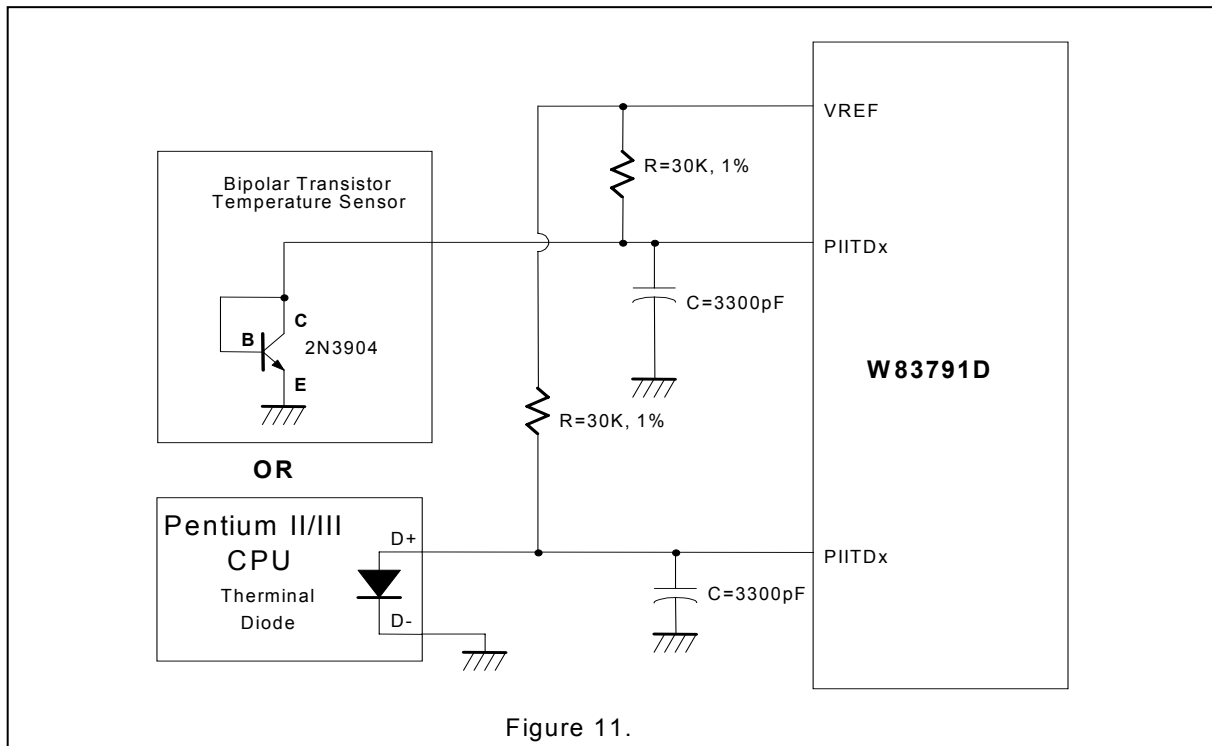

Figure 11.
The negative voltage should be connected to two series resistors and a positive voltage VREF (equal to 3.6V). In the Figure 11, the voltage V3 and V4 are two negative voltages and are -12V and -5V respectively. The voltage V3 is connected to two serial resistors as well as another positive terminal VREF. Therefore, the voltage node N12VIN would be a positive voltage if the scale of the two serial resistors are carefully selected. It is recommended from Winbond that the scale of the two serial resistors are R5=232K ohms and R6=56K ohm. The input voltage of node -12VIN can be calculated by the following equation.
The W83791D/G can connect three thermistors to measure three different environmental temperatures. The specification of thermistor should be considered to (1)  $\beta$  value is 3435K, (2) resistor value is 10K ohms at 25°C. In the Figure 11, the themistor is connected by a serial resistor with 10K Ohms (1% error), then connect to VREF (Pin 37).
The W83791D/G can alternate the thermistor to Pentium II/III™ thermal diode interface or transistor 2N3904 and the circuit connection is shown as Figure 11. The pin of Pentium II/III™ D- is connected to power supply ground (GND) and the pin D+ is connected to pin PIITDx in the W83791D/G. The resistor R=30K ohms should be connected to VREF to supply the diode bias current and the bypass capacitor C=3300pF should be added to filter the high frequency noise. The transistor 2N3904 should be connected to a form with a diode, that is, the Base (B) and Collector (C) in the 2N3904 should be tied together to act as a thermal diode.